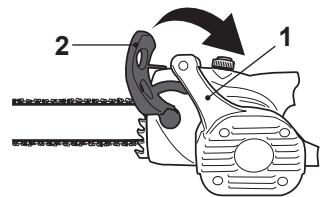
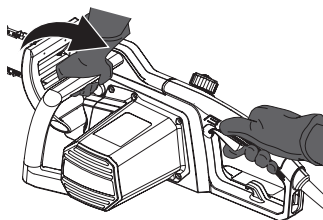
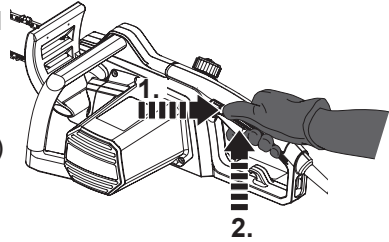

Fig. 16
Fig. 18
Fig. 19
- > The chain brake is a safety mechanism activated by the front guard (2). When kickback occurs the chain stops immediately.
- > The chain brake (2) in the disengaged position, the product can be operated (Fig. 16).
- > Make sure the chain brake (2) is disengaged. Disengage the chain brake (2) by pulling it back towards the front handle (1) (Fig. 16).
- > Place the product on any suitable flat surface, make sure the saw chain (4) is not touching the surface or other objects and connect it to the power supply as described.
- > Grasp the front handle (1) with your left hand. Your thumb and fingers should encircle the handle. Grasp the rear handle (18) with your right hand. Your thumb and fingers should encircle the handle (Fig. 18).
- > Press the lock-off button (16) with your right thumb, then fully squeeze in the on/off switch (17) with your index finger and hold it in position.
- > While the motor is running, activate the chain brake (2) by moving your left hand forward against the chain brake (2). The saw chain (4) and motor should stop immediately.
- > Make sure the safety chain brake (2) is disengaged (see above Fig. 16).
- > Grip the product with both hands, your left hand holding the front handle (1) (do not hold the chain brake) and your right hand holding the rear handle (18).
- > Press the lock-off button (16) and hold it in position.
- > Squeeze in the on/off switch (17) to switch the product on (Fig. 19).
- > Release the on/off switch (17) to switch the product off.